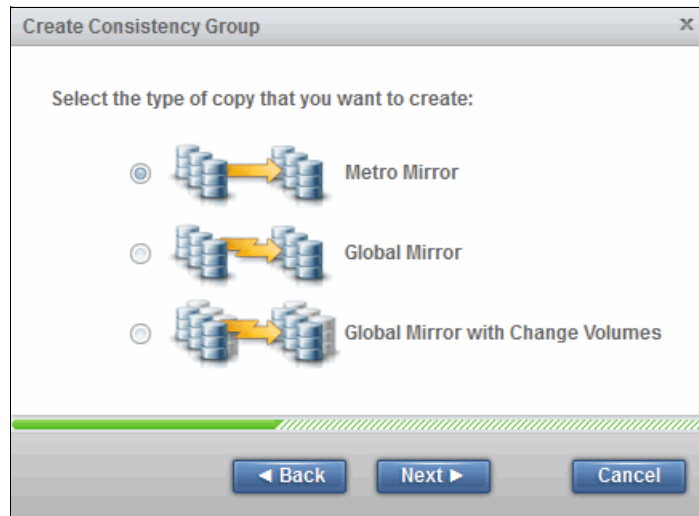

Figure 10-124 Selecting copy type: consistency group wizard
5. If you select **No** and click **Finish**, the wizard completes and creates an empty Remote Copy Consistency Group. Selecting **Yes** prompts for the type of copy to create, as shown in Figure 10-124.